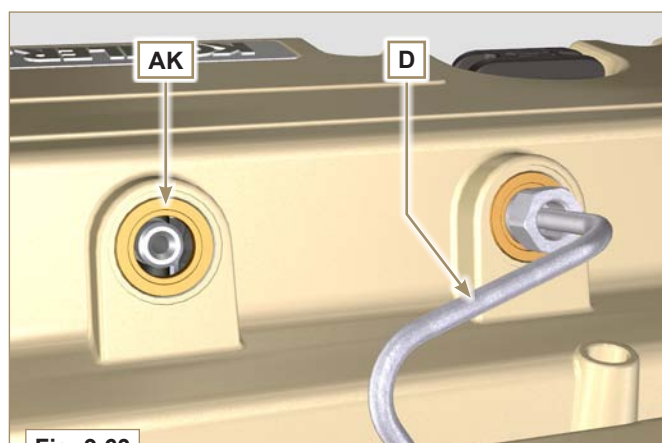

Fig. 9.63
- Always replace the gaskets **AK** after each disassembly (Fig. 9.63).